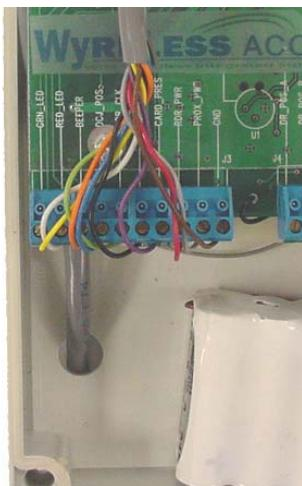
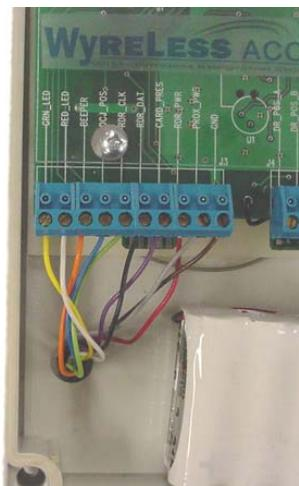

Figure 2-1 – Improper Wire Routing
Figure 2-2 – Proper Wire Routing
2.3.1 **TRANSCEIVER CONTROL BOX** – A 1” hole is provided in the back of the Transceiver Control Box for routing wires in & out. If needed, additional hole(s) can be drilled in the lower left hand corner of the Transceiver Control Box. Wire routing inside the enclosure is very important. Improper wire routing will reduce the RF range. Keep the wires inside the enclosure as short as possible (i.e. do not coil any excess wire inside the enclosure) (Figure 2-1 & Figure 2-2).